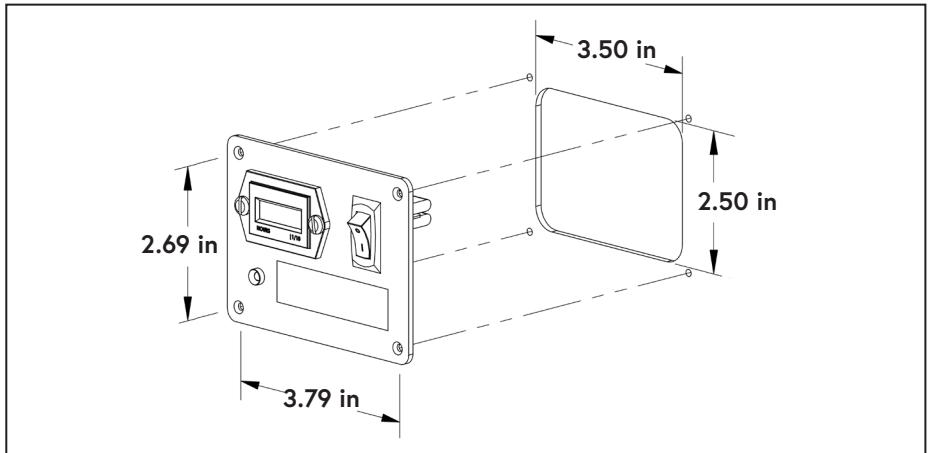

Figure 49 — Interface panel mounting dimensions
- Install the interface panel in a suitable location (Figure 49).